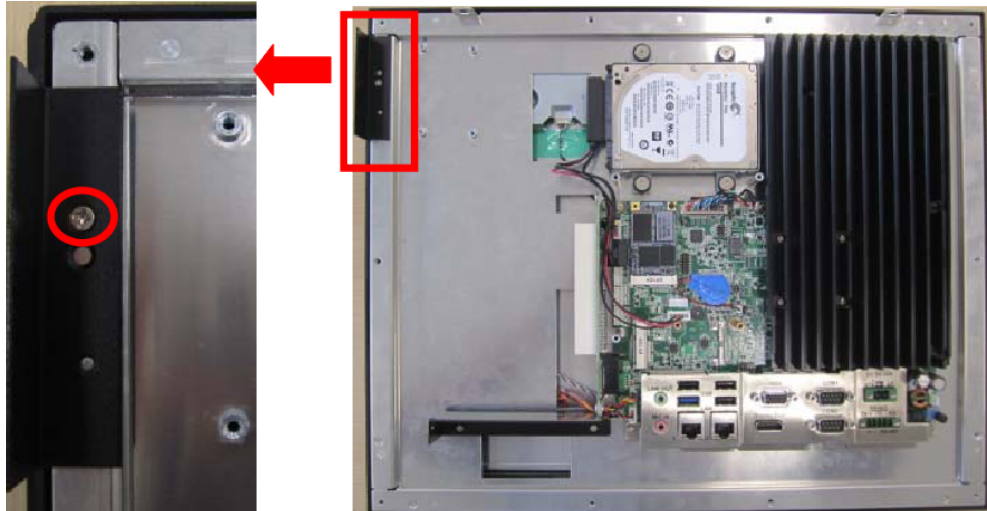

Figure 2.37
3. Remove the screw on the side of the I/O cover (see Fig. 2.37).